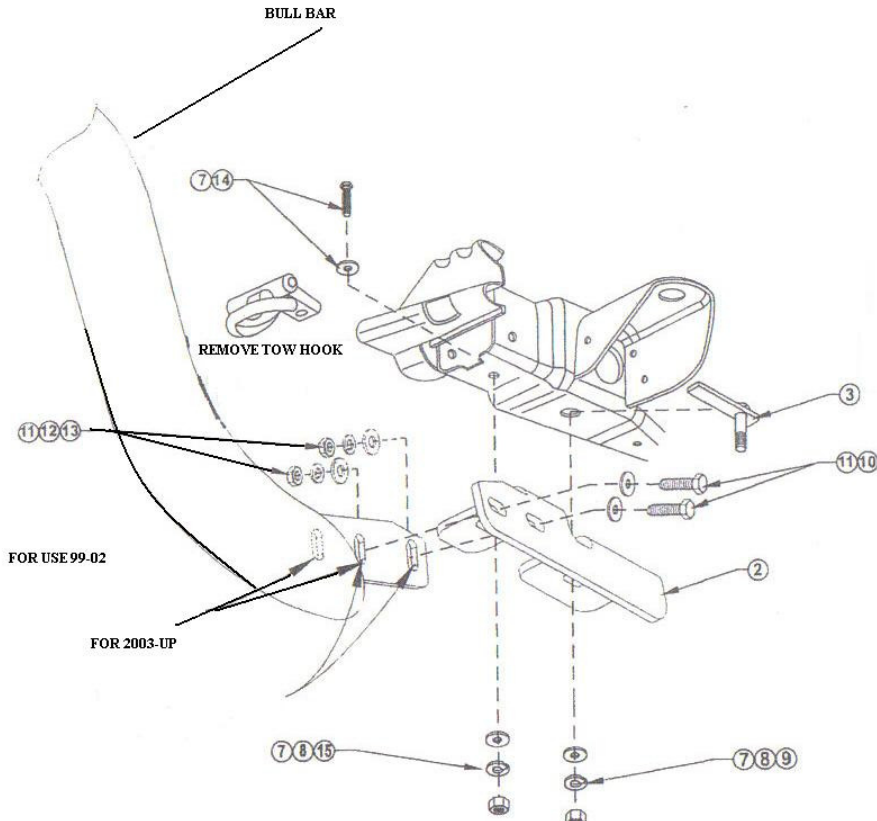

FIGURE 2 PASSENGER SIDE INSTALLATION DRIVER SIDE OPPOSITE
STEP 3 DETERMINE PASSENGER AND DRIVER BRACKETS. FROM UNDERNEATH VEHICLE, REMOVE TOW HOOKS. INSERT BOLT PLATES THROUGH LARGE HOLES AND M12 X 1.75 X 40MM HEX HEAD BOLTS THROUGH SMALL HOLES IN BOTH BOTTOM FRAME LOCATIONS. SEE FIGURE 2.
STEP 5 ATTACH BULL BAR TO BRACKETS USING 3/8" FASTENERS AS SHOWN. **NOTE:** 1999-02 MODELS USE FRONT AND MIDDLE HOLES ON THE LOOP MOUNTING BRACKETS. 2003 UP MODELS USE MIDDLE AND REAR HOLES. SEE FIGURE 2.